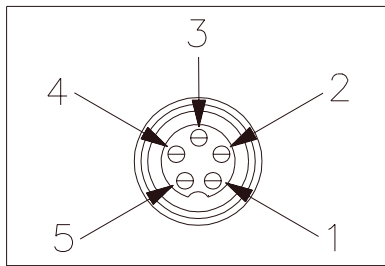

Fig 3. Microphone pin numbers
5. The wires must now be soldered to the pins as indicated in the above wiring tables. If a vise or clamping tool is available it should be used to hold the pin receptacle body during the soldering operation, so that both hands are free to perform the soldering. If a vise or clamping tool is not available, the pin receptacle body can be held in a stationary position by inserting it into the microphone jack on the front panel. The numbers of the microphone plug are shown in Figure 3, as viewed from the back of the plug. Before soldering the wire to the pins, pre-tin the wire receptacle of each pin of the plug.